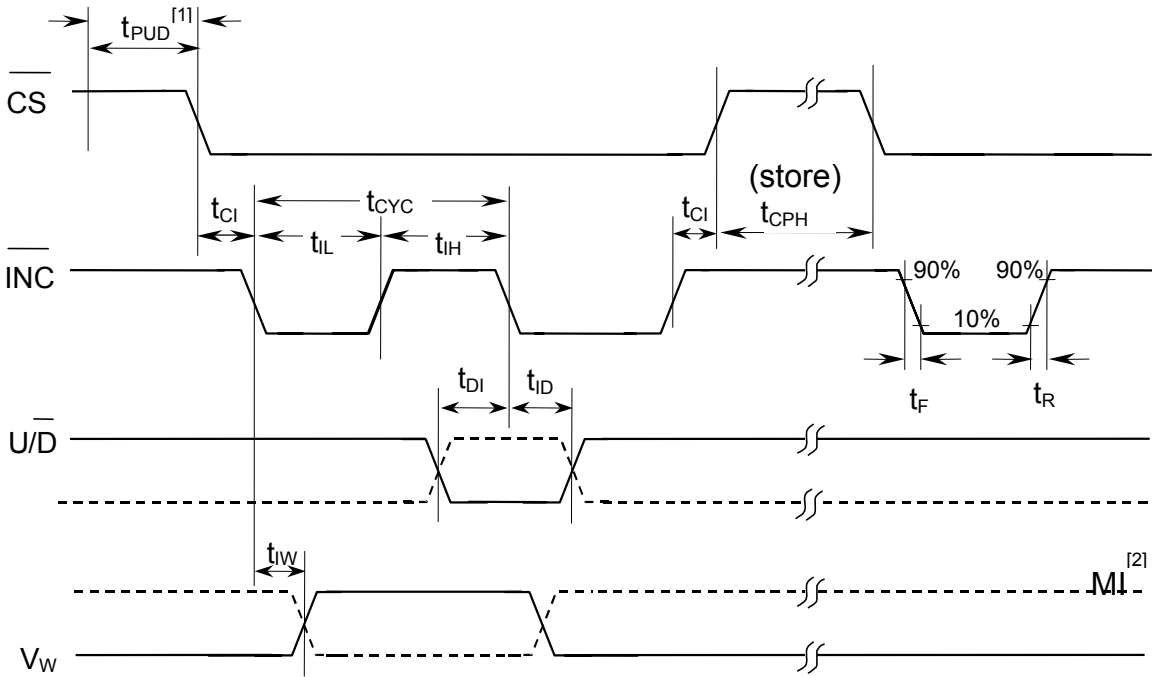

FIGURE 3 –WMS7170/1 TIMING DIAGRAM
- ^[2] MI in the AC Timing diagram (Figure 3) refers to the minimum incremental change in the wiper output due to a change in the wiper position.